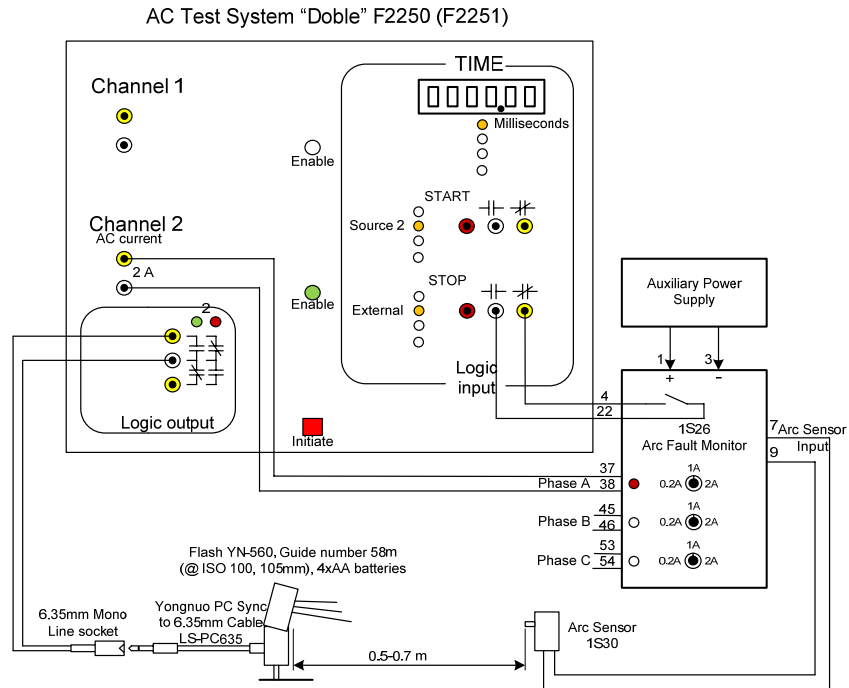

Figure 4: 1S26 test setup
1. Set up the test as shown in the Figure 4. Example shows testing for a single Zone 1 sensor operation.